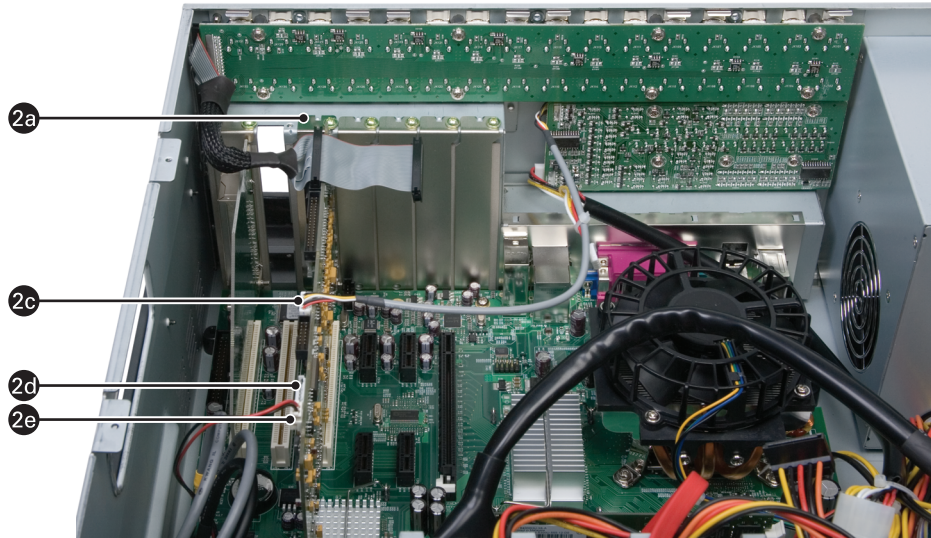

Figure 5. Moving the Main Capture Card
2. Move the main capture card (refer to Figure 5):